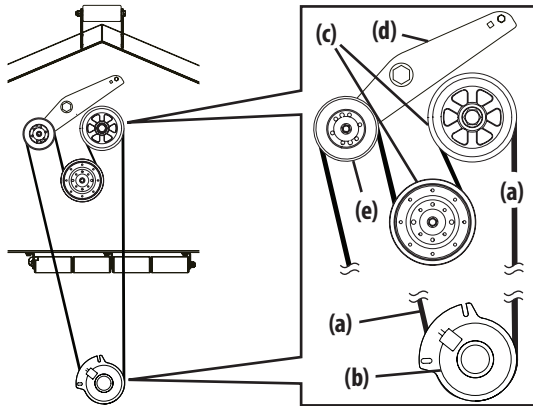

Figure 38
1. Remove the PTO belt (a) from the deck as instructed in STEPS 1 - 3 in the Deck Removal section then remove it from around the PTO clutch (b) (Figure 38).
2. Route the PTO belt (a) (Figure 38).
3. After routing the belt around the PTO pulley (c), use a 1/2" (12.7 mm) drive in the idler pulley bracket (d) and turn towards the right of the mower to finish routing the belt around the idler pulley (e) (Figure 38).